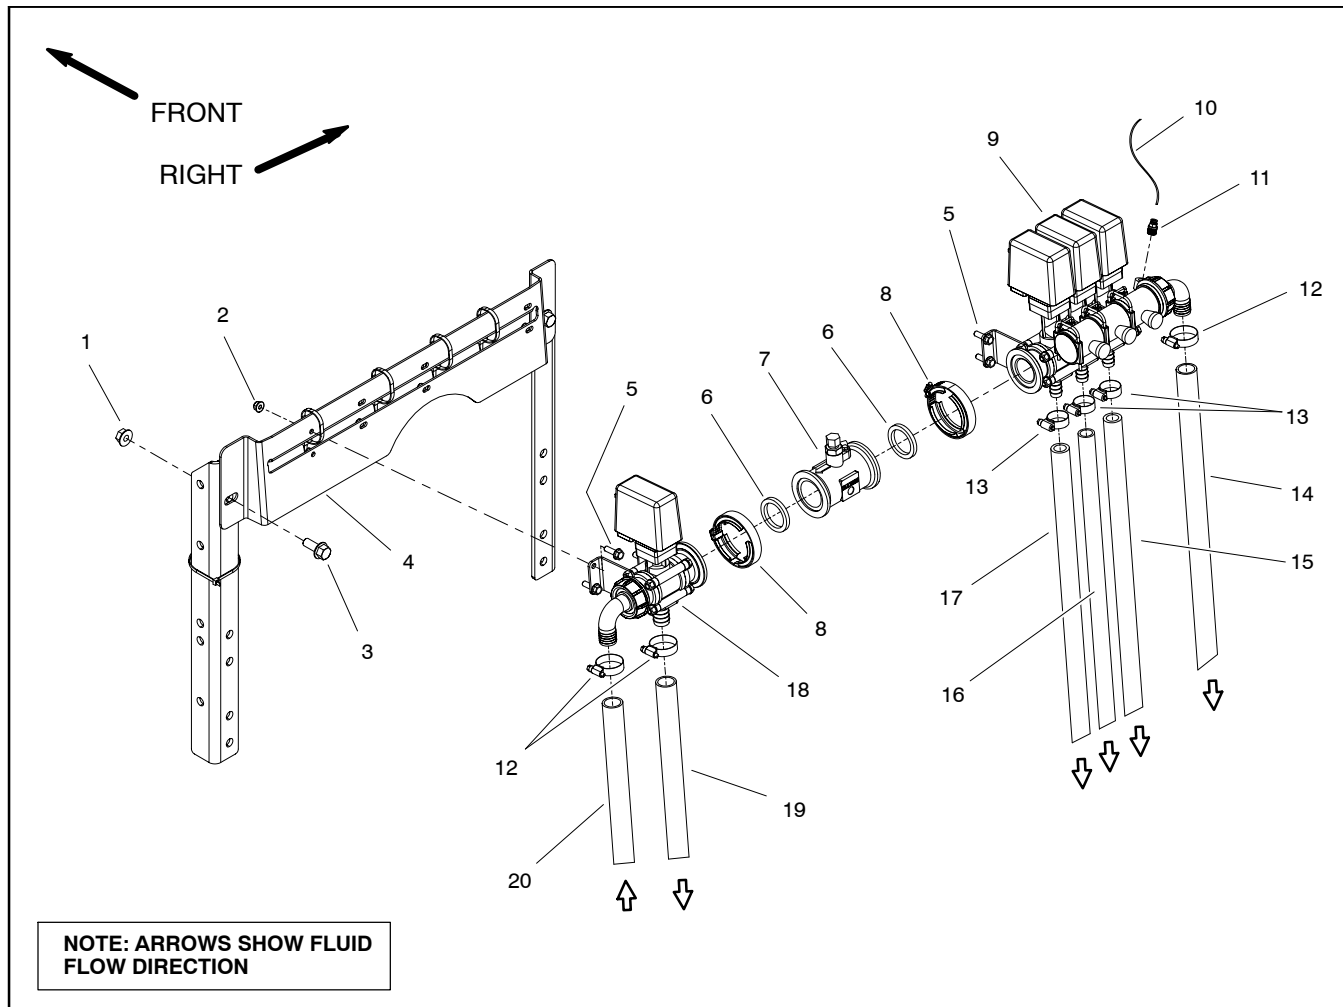
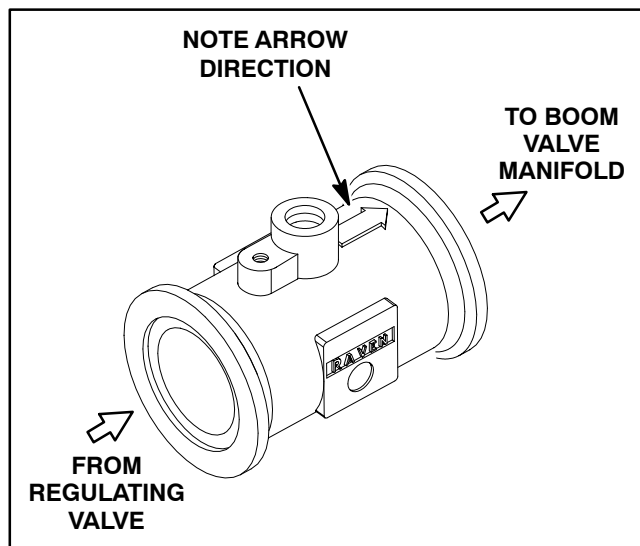

Figure 23.1
Figure 23.3
Disassembly (Fig. 23.1)
IMPORTANT: Before removing flowmeter from spray control assembly, note direction of arrow on top of flowmeter (Fig. 23.3). The arrow should point toward boom valve manifold assembly.
7. Separate spray control assembly as required using Figure 23.1 as a guide. Discard all removed gaskets.
Assembly (Fig. 23.1)
1. Assemble spray control using Figure 23.1 as a guide. Replace all removed gaskets. Make sure that arrow on flowmeter body points toward boom valve manifold assembly (Fig. 23.3).
2. Position spray control assembly to valve mounting bar and secure with eight (8) flange head screws, flat washers and flange nuts.
4. Install pressure gauge tube (item 10) to coupler on pressure gauge port on right side of boom valve manifold assembly.
5. Using labels placed during disassembly, secure wire harness connectors to regulating valve, flowmeter and three (3) boom valve motors.